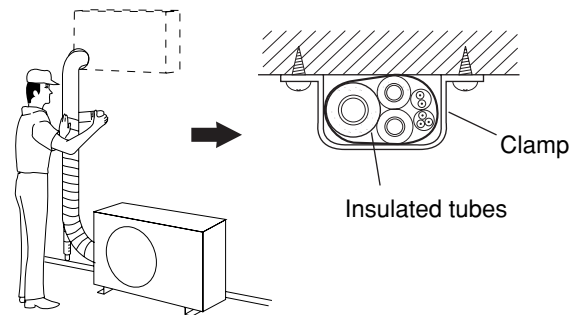

Fig. 55
- At this time, the 2 refrigerant tubes (and electrical wire if local codes permit) should be taped together with armoring tape. The drain hose may also be included and taped together as 1 bundle with the tubing. (Fig. 55)
- Wrap the armoring tape from the bottom of the outdoor unit to the top of the tubing where it enters the wall. As you wrap the tubing, overlap half of each previous tape turn. (Fig. 55)